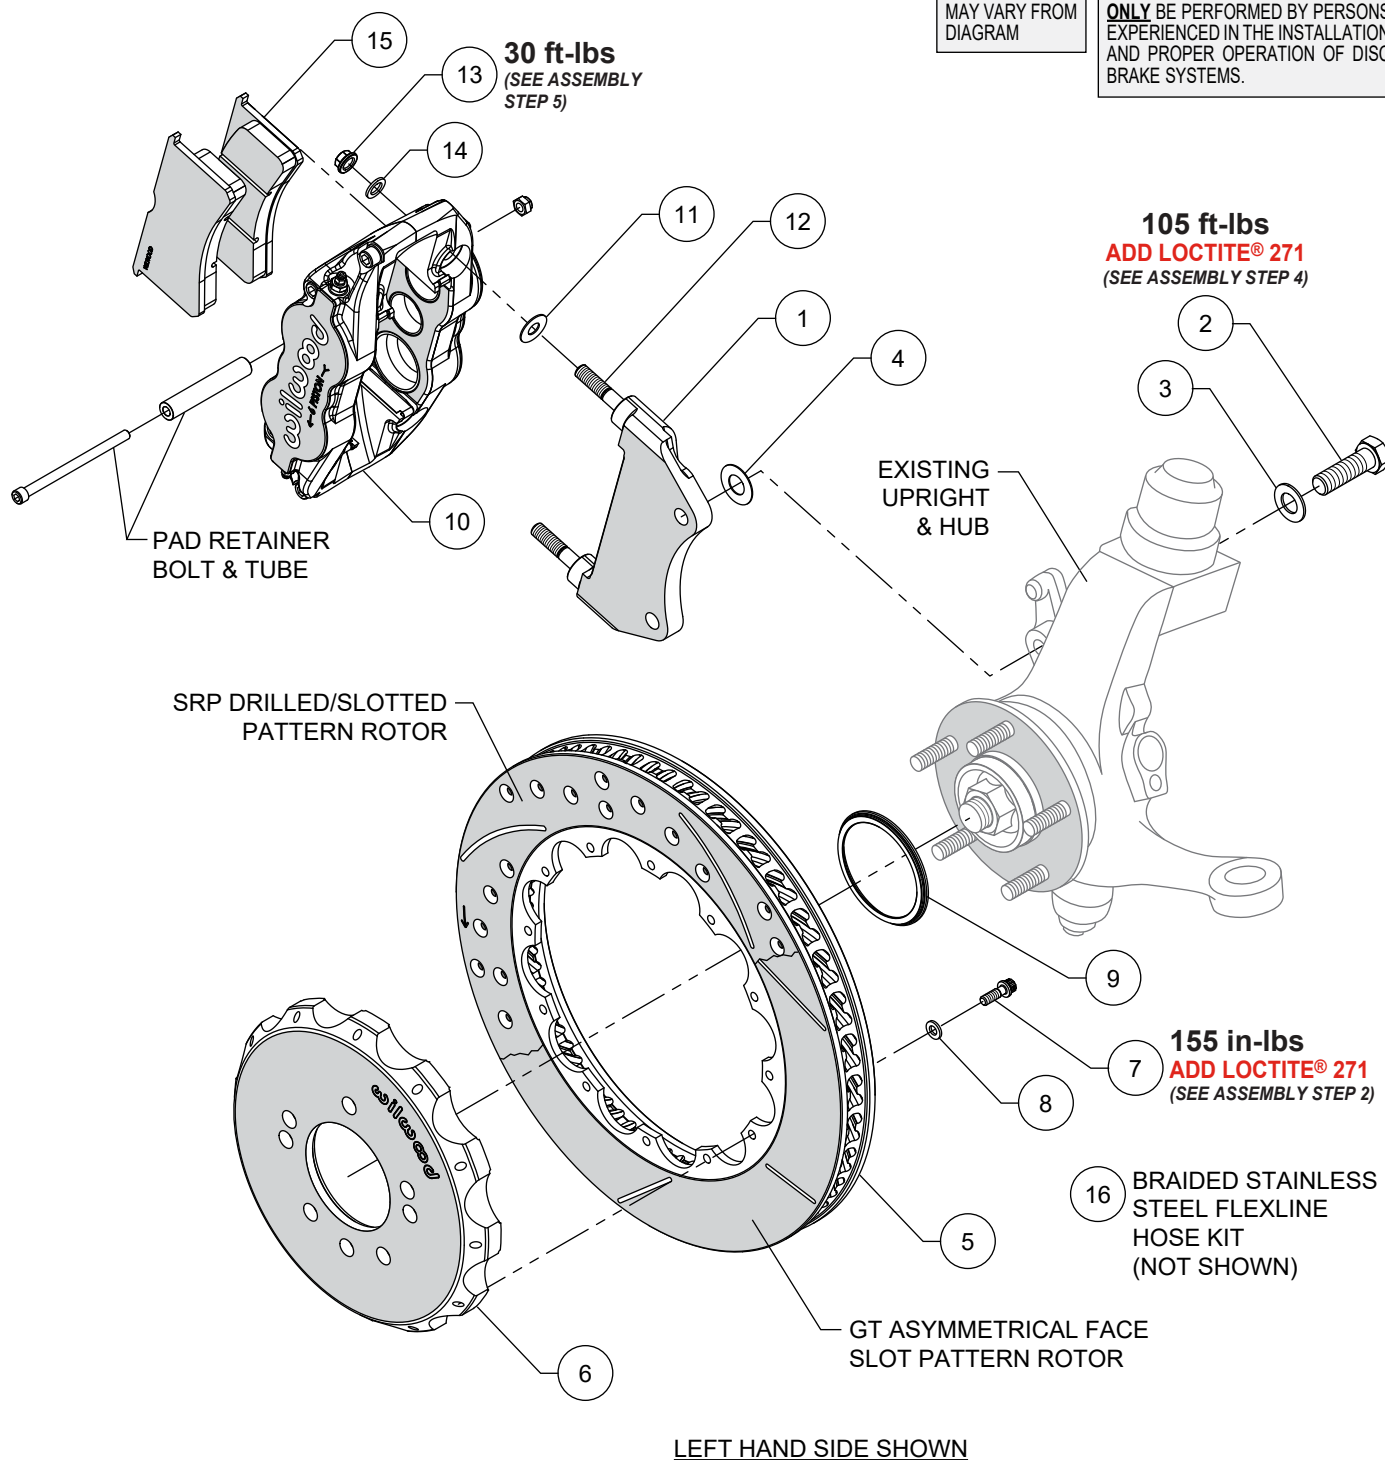
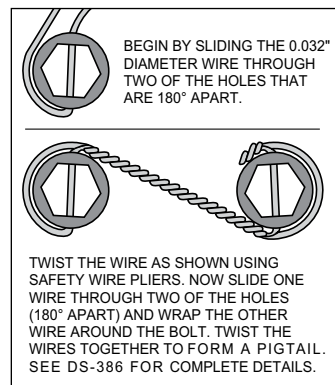

Figure 1. Typical Installation Configuration
Figure 2
NOTE: Numbers in parenthesis refer to the parts list and Figure 1 on the preceding pages.
STEP 1 The caliper mount bracket (1) should initially be installed with clean, dry threads on the mounting bolts. Orient the bracket as shown in Figure 1 and Photo 1, and install using mounting bolts (2) and washers (3). Initially place one .029" thick shim (4) on each bolt between the bracket and upright, Figure 1. Temporarily tighten the mounting bolts. **NOTE:** The bracket must fit squarely against the mount bosses on the upright. Inspect for interference from casting irregularities, machining ridges, burrs, etc. Later, after the caliper alignment has been checked, the mount bolts will be secured using red *Loctite*® 271.
STEP 2 Orient the rotor (5) and the hat (6) as shown in Figure 1 and Photo 2. Attach rotor to hat using bolts (7) and washers (8). Apply red *Loctite*® 271 to the bolt threads and torque to value shown in Figure 1 using a criss-cross pattern. For an added measure of security, the bolts may be safety wired using standard 0.032 inch diameter stainless steel safety wire as shown in Figure 2. Please refer to Wilwood's data sheet DS-386 (available at www.wilwood.com/Pdf/DataSheets/ds386.pdf) for complete safety wire installation instructions.
STEP 3 Install the rotor registration adapter (9) onto the register of the hub assembly with the smaller O.D. facing outward, Photo 3. Slide the hat/rotor assembly (5 and 6) onto the hub assembly. **NOTE:** The hat must fit flush against the hub flange or excessive rotor run out may result. Install three lug nuts (finger tight) to keep the hat/rotor assembly in place while continuing with the installation, Photo 4.
STEP 4 **NOTE:** This kit contains distinct right and left hand calipers that must be mounted in a specific direction, as described below. Initially place one .035" thick shim (11) on each stud as shown in Figure 1 and Photo 5. Mount the caliper (10) onto the bracket (1) using lock nuts (13) and washers (14), Figure 1. Ensure that the caliper is mounted so that the largest pistons are at the rotor exit end of the caliper, in relation to the direction of rotor rotation. Temporarily tighten the lock nuts and view the rotor through the top opening of the caliper. The rotor should be centered in the caliper, Photo 6. If not, adjust by adding or subtracting shims (4) between the bracket and the upright. Always use the same amount of shims on each of the two mounting bolts. Once the caliper alignment is correct, remove the bracket mounting bolts (2) one at a time, apply red *Loctite*® 271 to the threads, and torque to value shown in Figure 1.
STEP 5 Remove the caliper center bridge pad retainer bolt, nut, and tube from the caliper. Insert the brake pads (15) into the caliper, with the friction material facing the rotor, as shown in Photo 7. Check that the top of the brake pad is flush with the outside diameter of the rotor, Photo 8. If not, adjust by adding or subtracting shims (11) between the caliper and the bracket.
After the caliper pad height is set, reinstall the center bridge pad retainer tube, bolt, and lock nut. The lock nut should be snug without play in the bolt or tube. Be cautious not to over tighten. Torque the caliper lock nuts (13) to value shown in Figure 1.
STEP 7 Attach supplied brake line to caliper. **NOTE:** OEM rubber brake hoses generally cannot be adapted to Wilwood calipers. Install Wilwood's stainless steel braided flexline hose kit (16), P/N 220-18241 included with this kit. The caliper inlet fitting is a 1/8-27 NPT. Use the included steel adapter fitting at the caliper (use PTFE tape on the pipe threads of adapter fitting for proper sealing to caliper). Note final orientation of adapter fitting as shown in Photo 10 (arrow). Route line as shown in Photos 9 and 10. Reuse existing OEM brake line bracket bolt and mounting location to secure Wilwood flexline bracket, Photo 9 (arrow). **Ensure hoses are routed to prevent contact with moving suspension, brake or wheel components.**